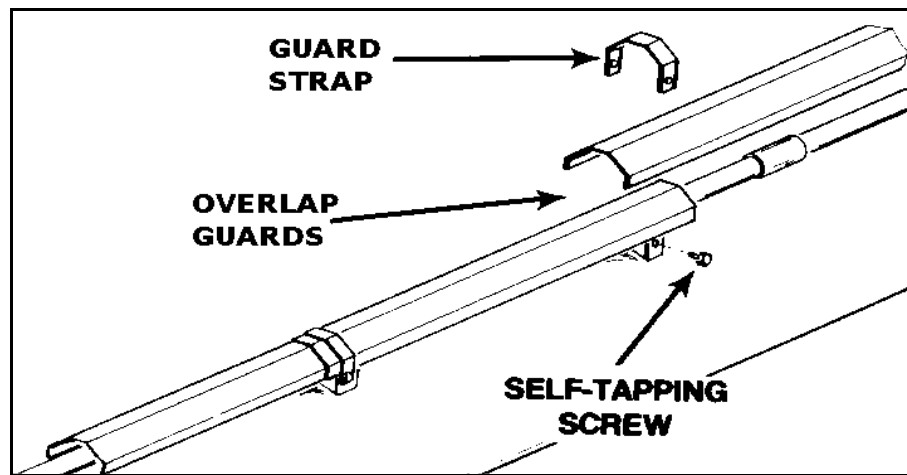

Figure 3.7 Driveshaft Shielding Installation
3. To install the remainder of the driveshaft shields, work from the bottom up, overlapping at bearing bracket (Figure 3.7).